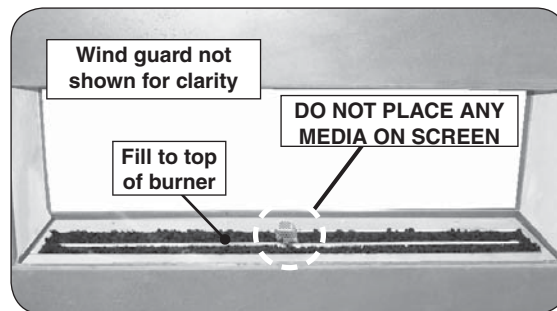
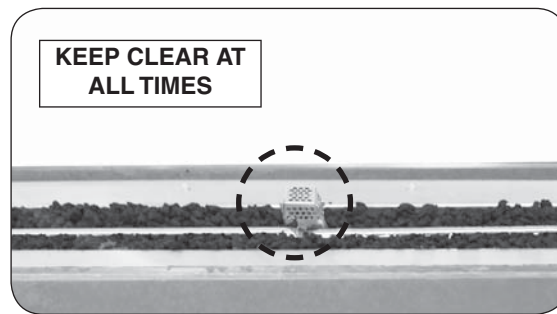

Fig. 22-1 Lava media option
Fig. 22-2 Screen detail
1. Pour the 10 lb bag of lava granules into the burner area (with the exception of the screen). Spread the granules within the burner area as shown in Fig. 22-1 and Fig. 22-2. **Only fill the granules up to the top of the burner tube.**